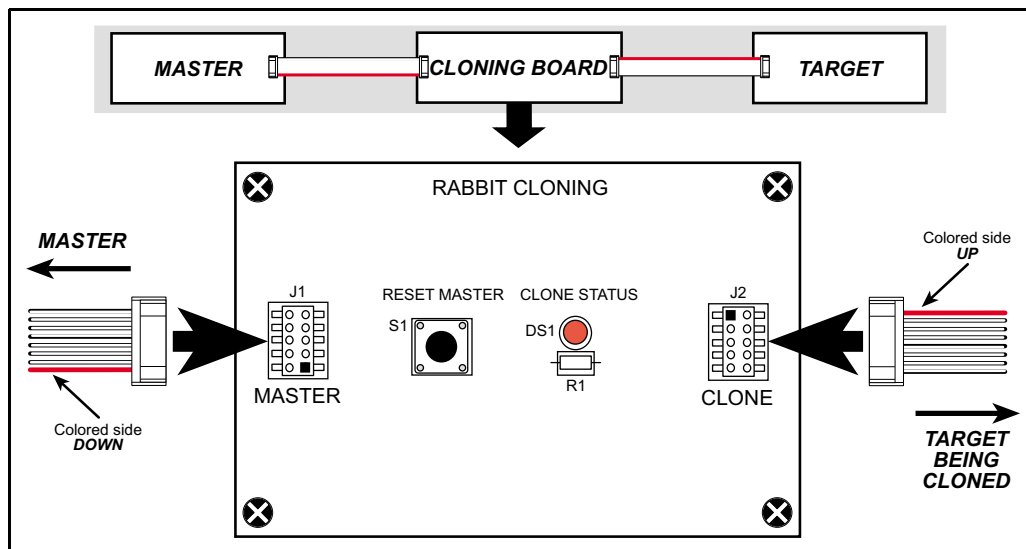

Figure 2. Cloning Cable Connections to Rabbit 2000 Cloning Board
1. Use one of the cables supplied with the Rabbit 2000 Cloning Board to connect the **MASTER** header (J1) on the Cloning Board to the programming port of your master controller. Make sure that the colored side of the cable goes to pin 1 of the header as shown in Figure 2.
2. Use the other cloning cable supplied with the Rabbit 2000 Cloning Board to connect the **CLONE** header (J2) on the Cloning Board to the programming port of the target controller, which will receive the program. Make sure that the colored side of the cable goes to pin 1 of the header as shown in Figure 2.